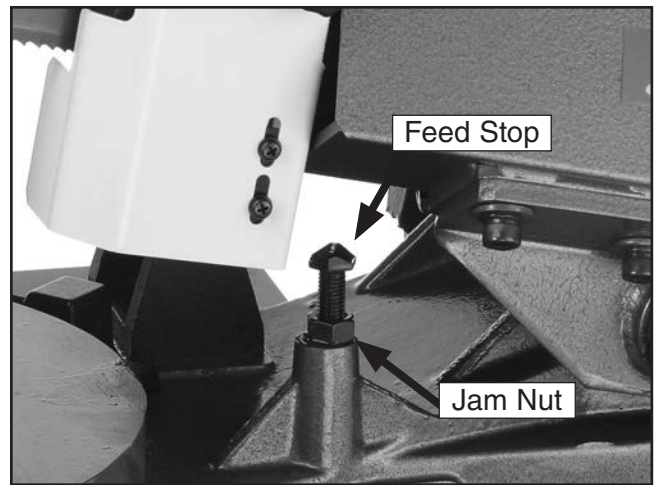

Figure 12. Feed stop.
1. Adjust the feed stop bolt and jam nut (**Figure 12**), so the bandsaw blade teeth are just below the vise table surface when the cut is complete.